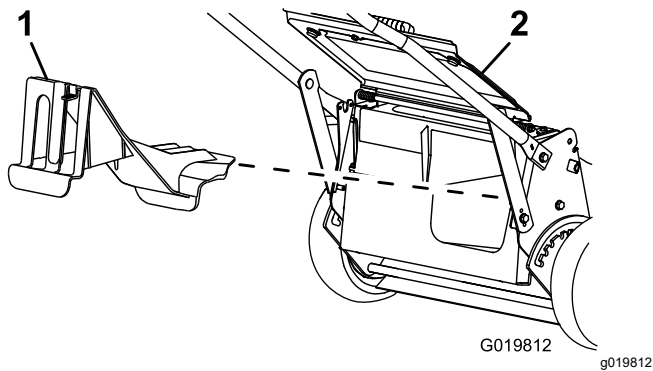

Figure 17
- If the rear-discharge plug is not installed, grip it by the handle, raise the rear deflector, and insert it into the rear-discharge chute until the latch locks into place; refer to Figure 17.